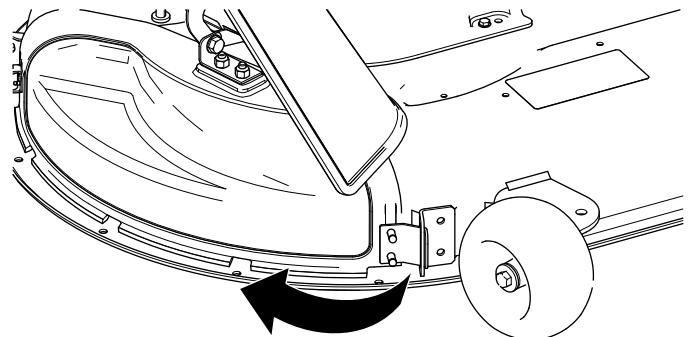

Figure 15
- 4. Pivot the discharge cover back and toward the deck so that the discharge cover aligns with the mower deck (Figure 15).